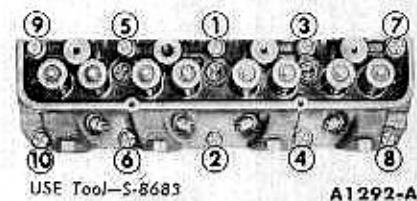

FIG. 51—Cylinder Head Bolt Tightening Sequence
7. The cylinder head bolts are tightened in three progressive steps. Follow the sequence shown in Fig. 51. Tighten the bolts to 60-70 foot-pounds torque, then tighten them to 70-80 foot-pounds torque. Finally, tighten the bolts to 80-90 foot-pounds torque in the same sequence. After the cylinder head bolts have been tightened to specifications, the bolts should not be disturbed.
3. The cylinder head bolts are tightened in three progressive steps. Follow the sequence shown in Fig. 51. Tighten the bolts to 60-70 foot-pounds torque, then tighten them to 70-80 foot-pounds torque. Finally, tighten the bolts to 80-90 foot-pounds torque.